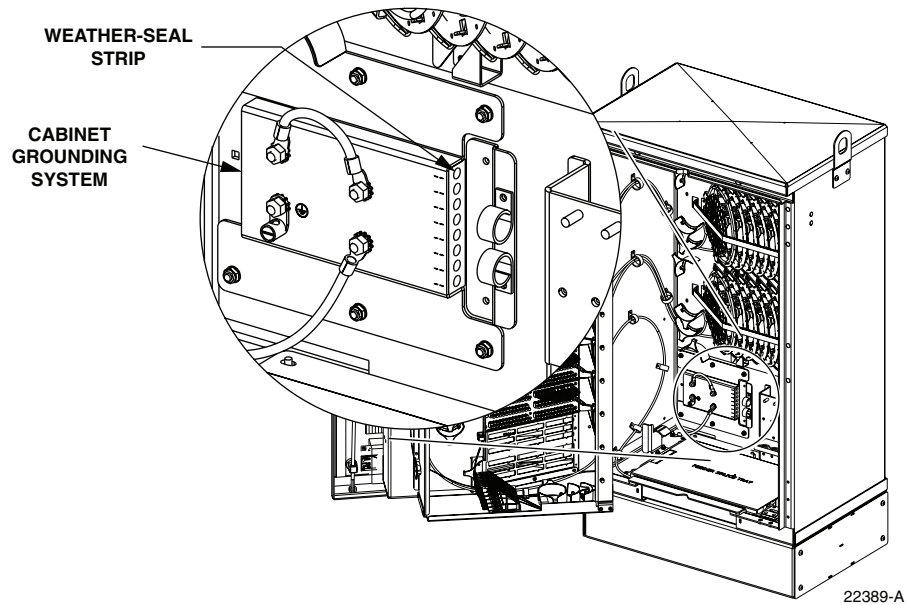

Figure 30. Cable Grounding System - Interior View
2. Locate the weather-seal strip attached to the right side of the cabinet grounding system as shown in Figure 30.